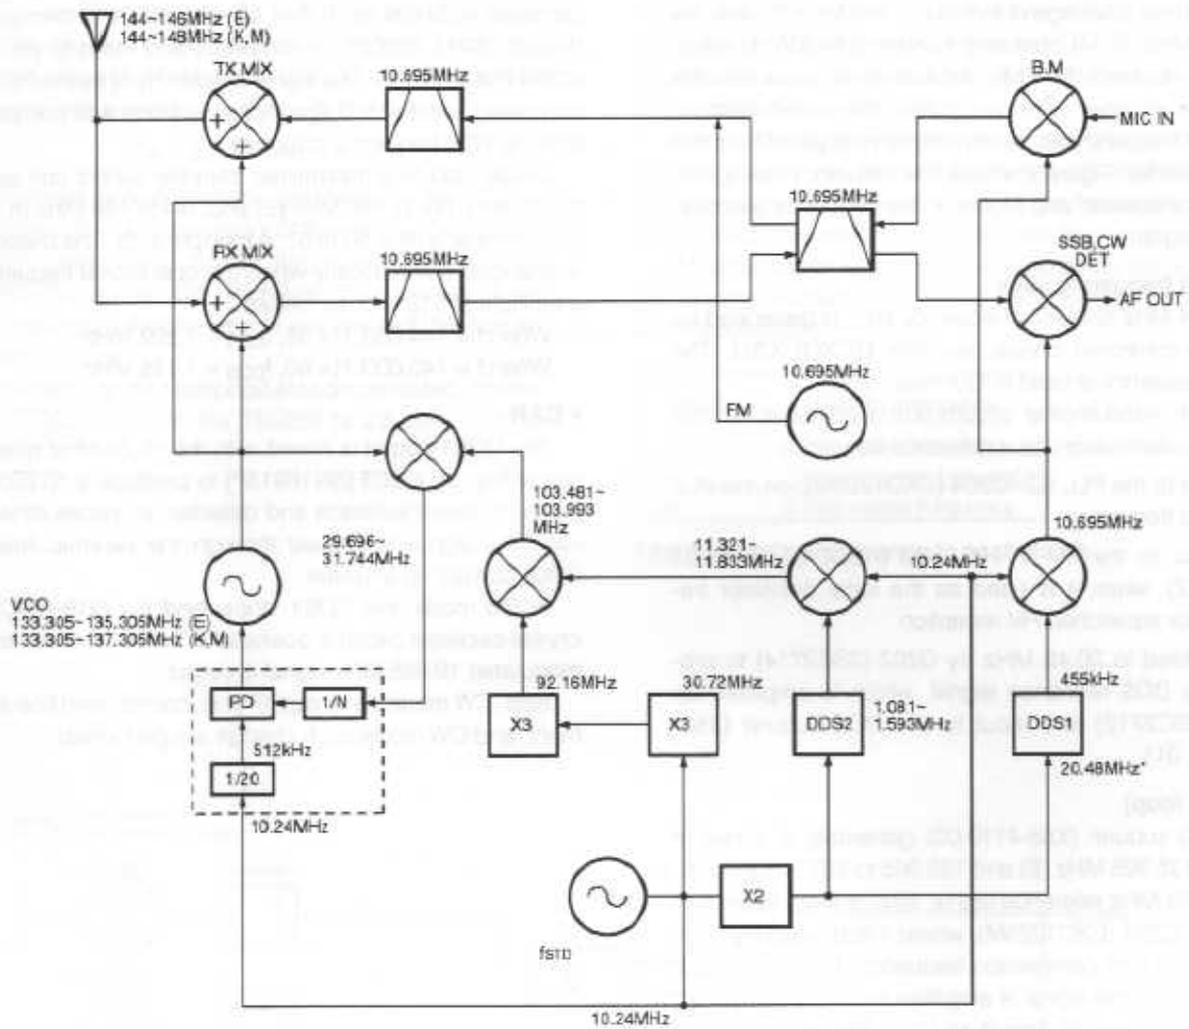
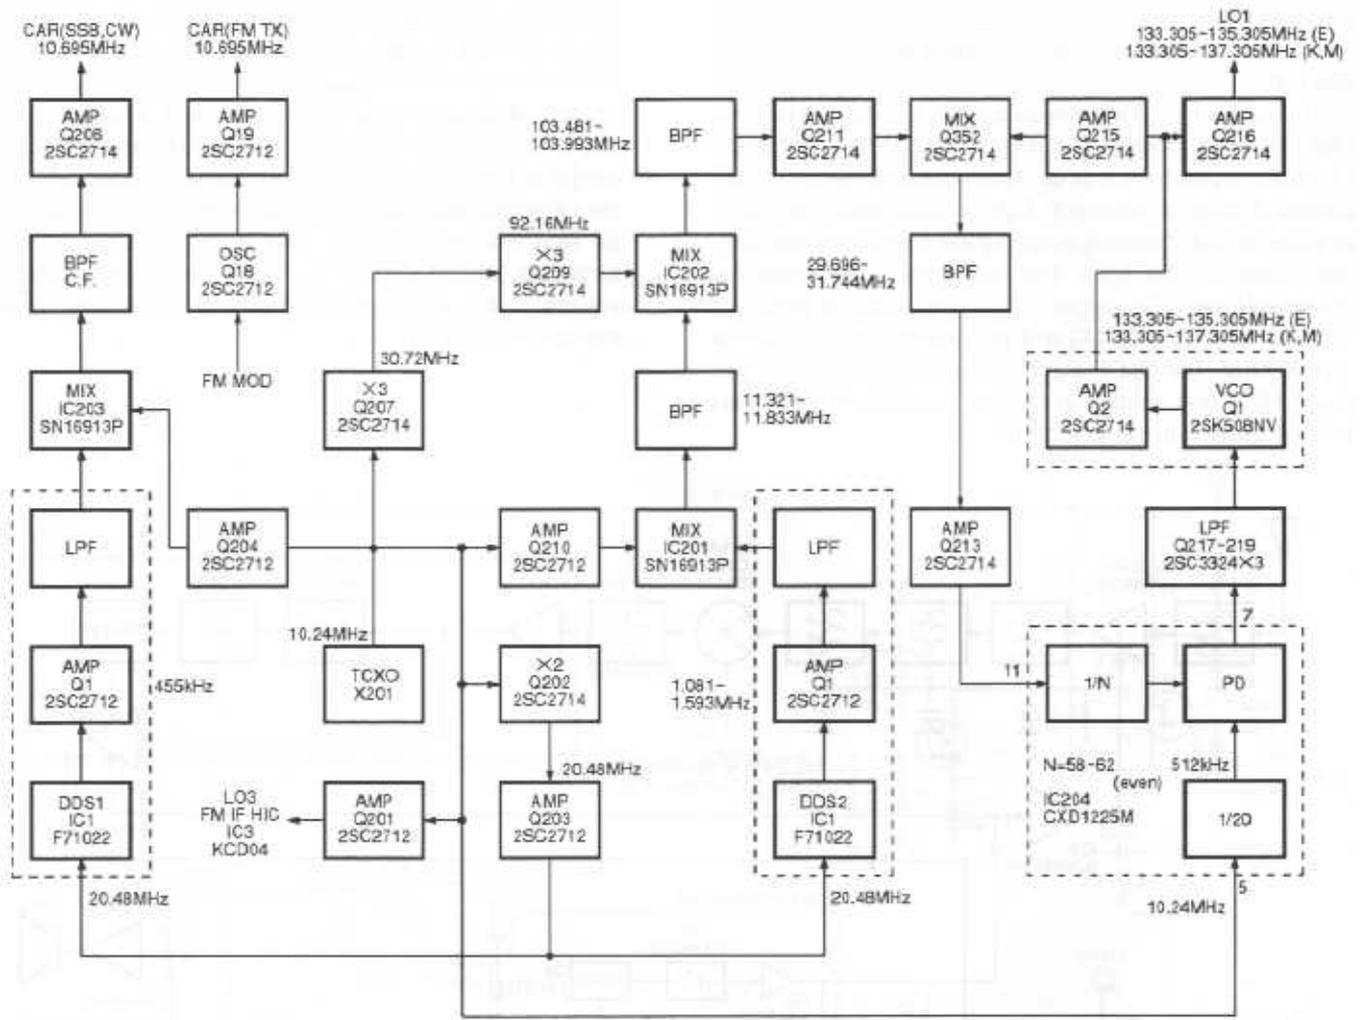

Fig. 2 Transceiver frequency configuration
Fig. 3 Frequency processing block diagram
Since all these frequencies are generated by the PLL as shown in Figure 2 (PLL frequency configuration), the receive frequency is determined only by the reference frequency,  $f_{STD}$ , and the PLL divide ratio. Therefore, the accuracy of the reference frequency determines the accuracy of the operating frequency.
PLL operation is based on a reference frequency of 10.24 MHz, and allows coverage of the 144 to 146 MHz (E) and the 144 to 148 MHz (K, M) operating band in 5 to 200 Hz steps (50 to 2000 Hz steps for FM), depending on how fast the through-type encoder is turned. When the encoder stops, the selected frequency will be an integral multiple of 5 Hz (50 Hz for FM mode). Figure 2 shows the frequency configuration of the transceiver, and Figure 3, the frequency processing block diagram.